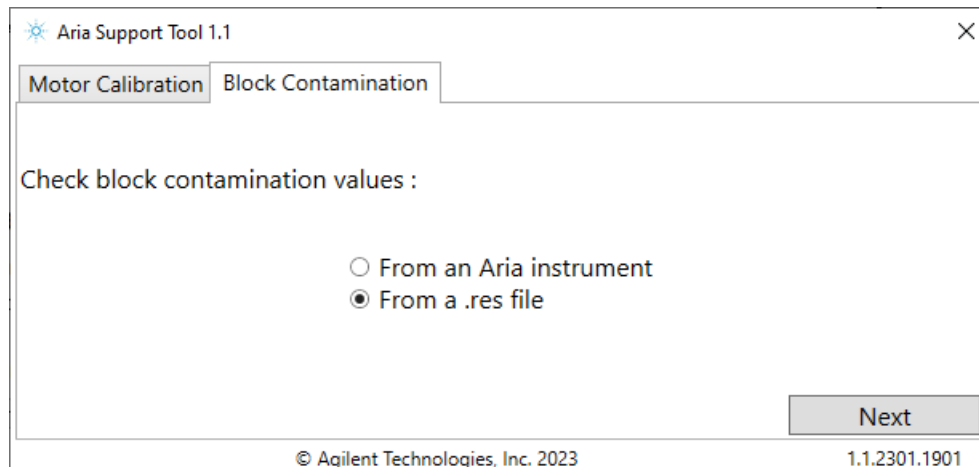

Figure 18 Block Contamination tab – select **From a .res file**
- 2 Click the Block Contamination tab. Select **From a .res file**. (See Figure 18.)